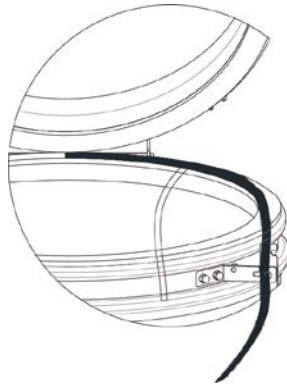

Figure 22
4. Remove about 6" of the white backing material of the new felt gasket. Facing the grill, start the new gasket on the base dome at the center of the rear side near to the hinge. (See Figure 22) And ensure that the new gasket is flush to the interior of the base dome edge.